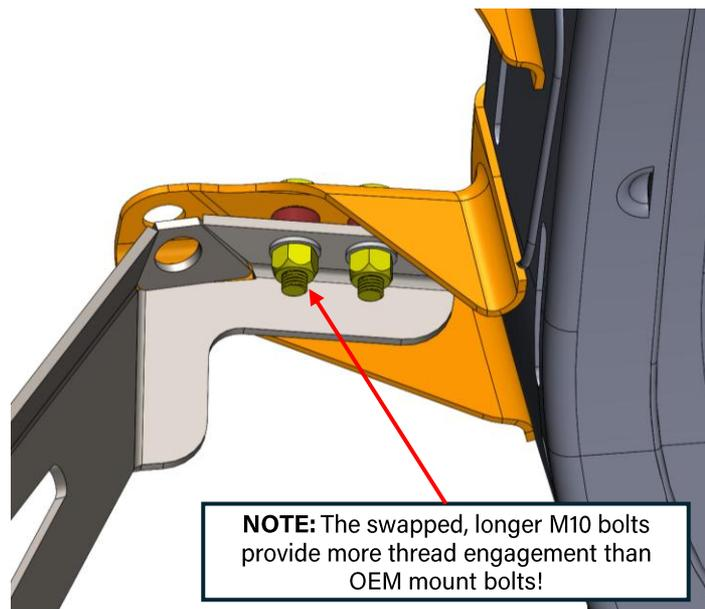

Figure 35: Motor mount bracket loosely installed
28. **Loosely** install the provided driver-side motor mount bracket. This bracket has a clearance bend for the driveshaft. See Figure 35 below for clarification. **Install below the motor mount using the x2 provided M10 locknuts and x2 washers. Do not install the skid plate yet!**